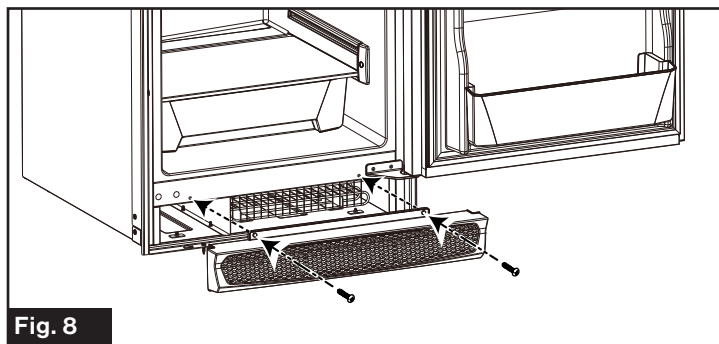

Fig. 8
5. Reinstall the air vent and tighten the screws. (Fig. 8)